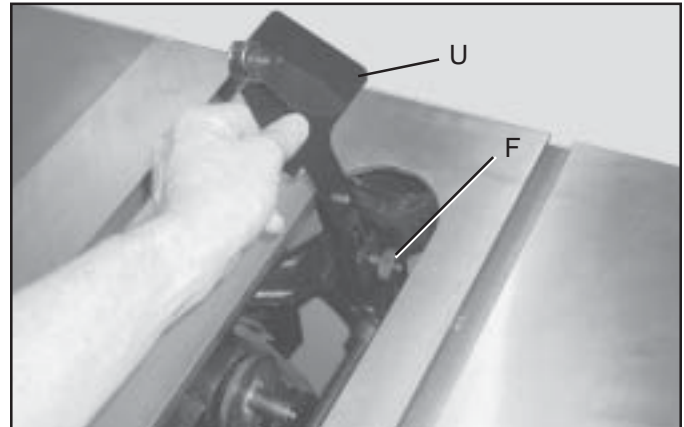
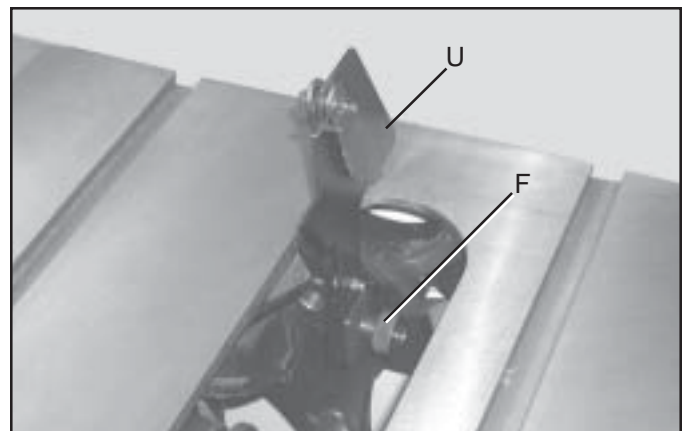

Fig. 12
Fig. 13
11. Loosen knob (F) Fig. 12, and slide splitter (U) down as far as possible into the splitter mounting bracket and tighten knob (F). Fig 13 illustrates the splitter assembled to the mounting bracket. **IMPORTANT:** When performing non thru-cutting operations, such as dadoing, the splitter (U) Figs. 12 and 13, can be removed by loosening knob (F). This enables you to use the guard basket for non thru-cutting operations.